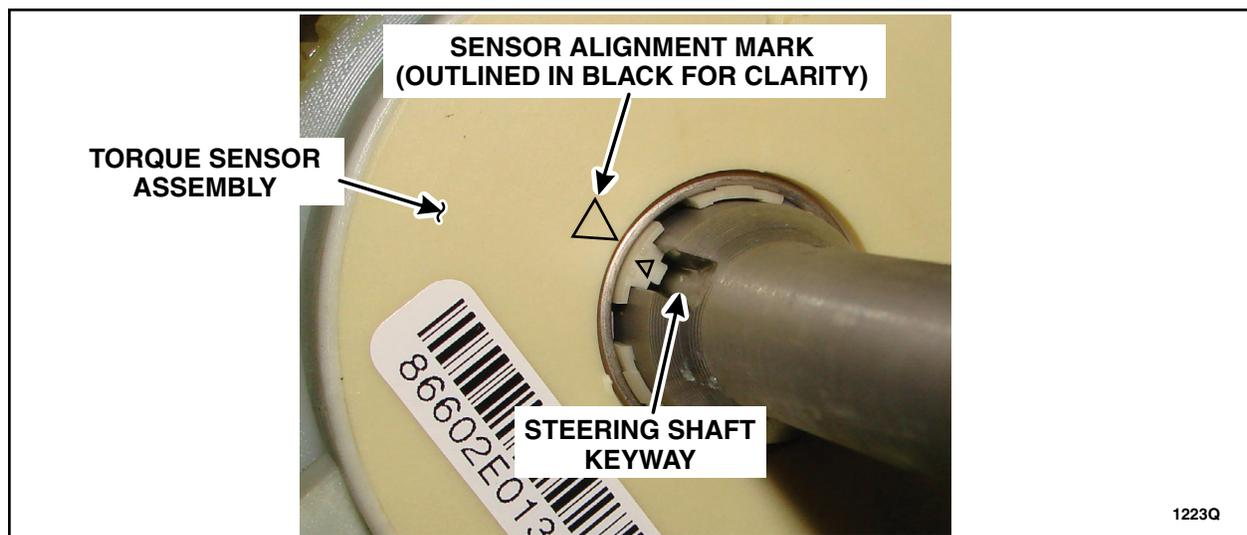

FIGURE 13
18. Before removing the old torque sensor assembly, verify the steering shaft keyway is aligned with the sensor alignment mark. This will ensure that the steering input shaft is in the correct position for installation of the sensor alignment tool. (If necessary, have an assistant bump the front tires left or right until the sensor is perfectly aligned.) See Figure 13.